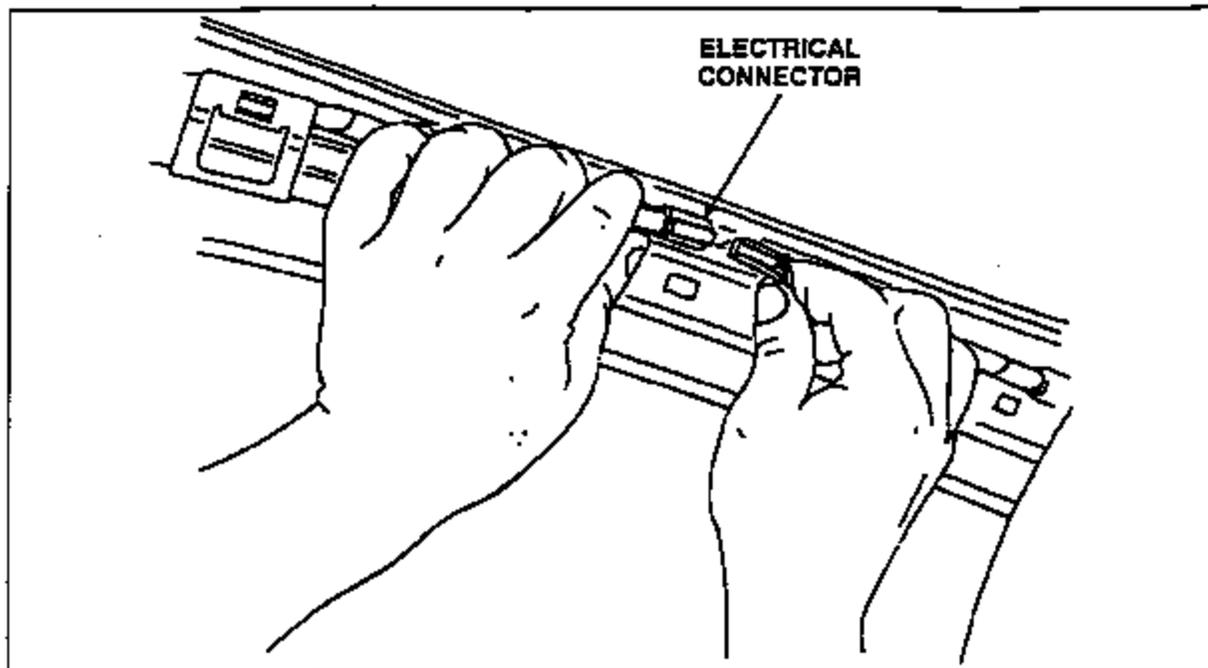

FIGURE 1
5. Disconnect the front limit switch electrical connector. See Figure 1.